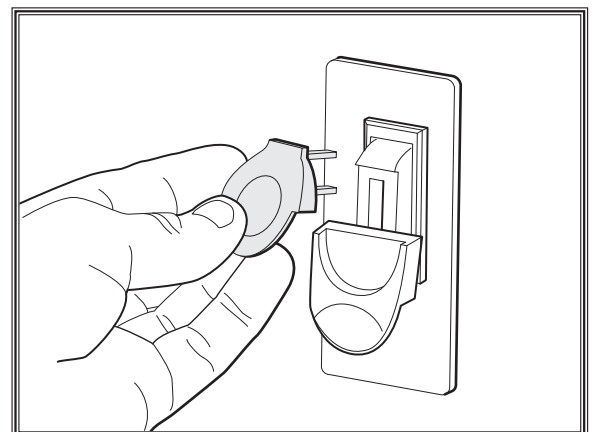

Figure 15. Removing switch key from paddle switch.
5. Remove the switch disabling key (**Figure 15**).